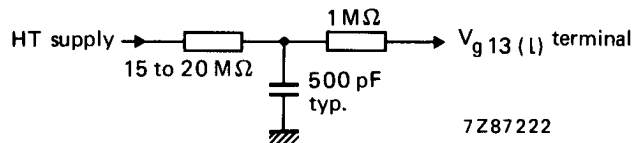

Fig. 7.
1. These values are valid at cut-off of both flood guns and the writing gun. The H.T. unit must be capable of supplying 0,5 mA. To protect the tube against excessive surge current during erasure, an RC-network as shown in Fig. 7 must be connected in series with the screen terminal lead; the resistance of 15 to 20 M $\Omega$  includes the internal resistance of the H.T. supply.